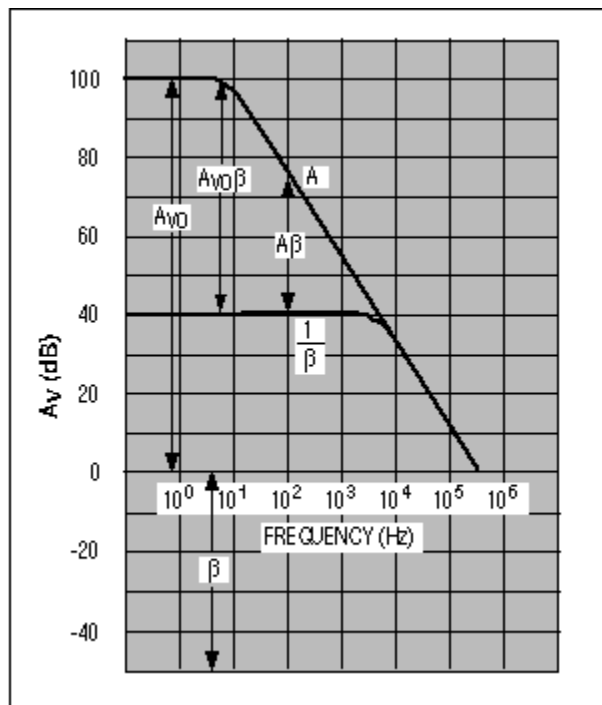

Figure 9. Output impedance generally rises with frequency.
Remember that high loop gain is necessary for low output impedance, according to the equation $R_{OUT} = R_O / (1 + A_{VO}\beta)$, where R_O is the open-loop output impedance and $A_{VO}\beta$ is the loop gain. $A_{VO}\beta$ decreases as you approach the op amp's unity-gain crossover frequency, leading to increased output impedance (Figure 9). Higher output impedance makes it difficult for the amplifier to handle current spikes from the ADC.
The Bode diagram of Figure 9 also depicts, for the noninverting circuit, the relationships between open-loop gain (A), the feedback-attenuation factor (β), noise gain ($1/\beta$), and loop gain ($A\beta$, or $A_{VO}\beta$ at DC) as functions of frequency. Figure 9 shows the variation of open-loop gain vs. frequency for a typical operational amplifier. At very low frequencies, the DC open-loop gain (A_{VO}) is near 100dB. Also note that the logarithm of the feedback-attenuation factor is negative because it represents a reduction in the signal amplitude.